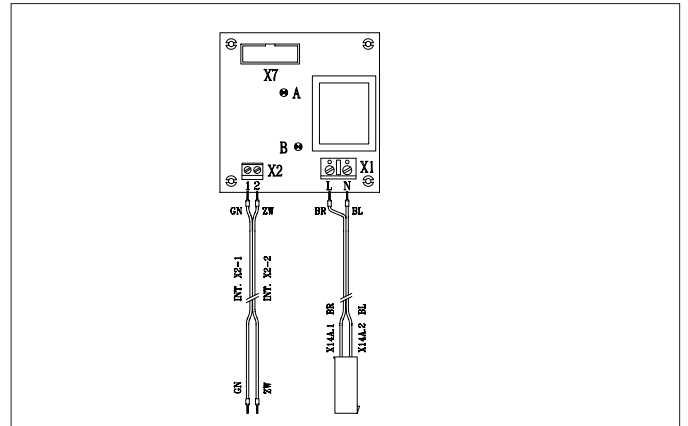

Fig. 23 Interface PCB for modulating **rematic**® control
5. Open the instrument cupboard. This cupboard contains an interface PCB (see fig. 23) for the modulating **rematic**® control. The PCB also includes two LEDs.
2. LED B (see fig. 23) is not flashing.
3. LED A (see fig. 23) is not flashing: